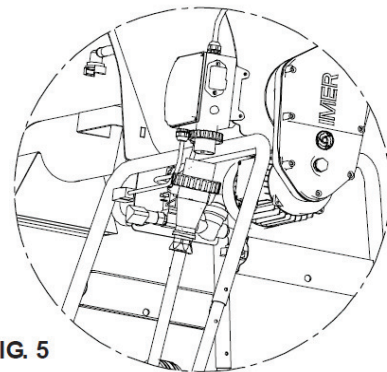

FIG. 5
10.1 ELECTRICAL CONNECTION (see fig.5)
Before connecting the mixer to the electrical mains, ensure that all safety devices are fitted and are in perfect condition, and check in particular that the hopper grid is secured in place, that the extension is in good condition and that the plugs and sockets are not wet. Connect the mixer socket on the electrical panel to the mains (fig.5).